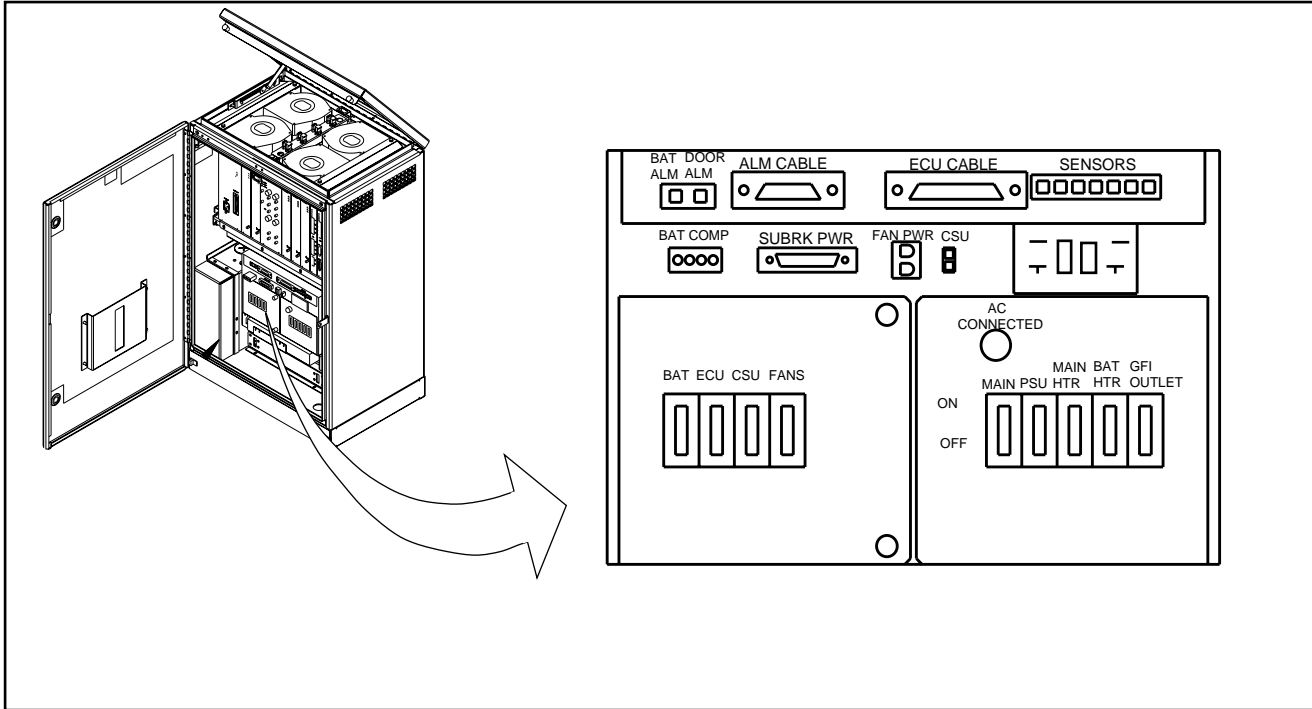

Figure 5-25. AC/DC Distribution Box
3. Place the **BAT** circuit breaker on the left side of the AC/DC Distribution Box in the OFF position. See Figure 5-25 on page 5-49.